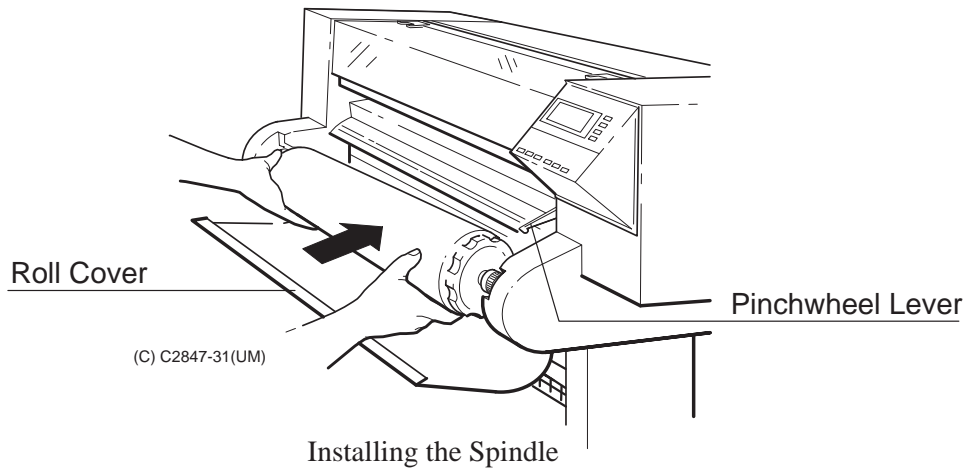

Figure 3-4.
3. Open the roll cover and insert the spindle, with the endcap at the left and the media stop at the right. Firmly push on both ends. See Figure 3-4.